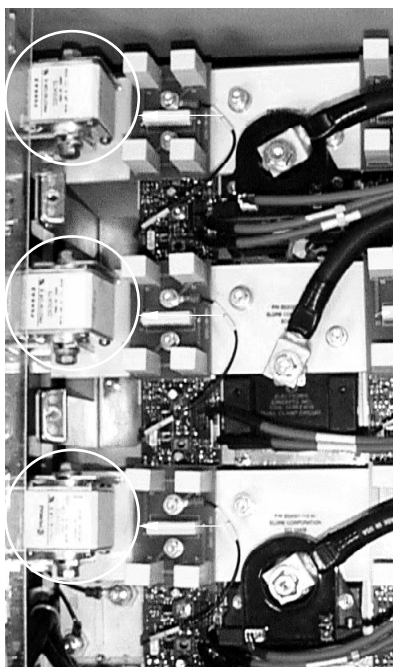

Figure 4.2.10: DC Bus Fuses
2. Remove the DC bus fuse (see Figure 4.2.10) by loosening the two mounting screws and lifting the fuse off of its bracket.
4. Place the DC bus fuse on its mounting bracket (see Figure 4.2.10 on page 4.2.19) and secure with two mounting screws. Torque the screws to 148 lb-in (16.7 N•m).